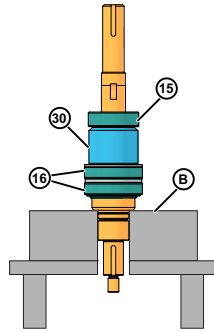

Figure 46 - Remove Bearings From Shaft
11. Use a hydraulic press and V-blocks (Figure 46, item B) to remove the bearings (items 15 and 16) and spacer (item 30)